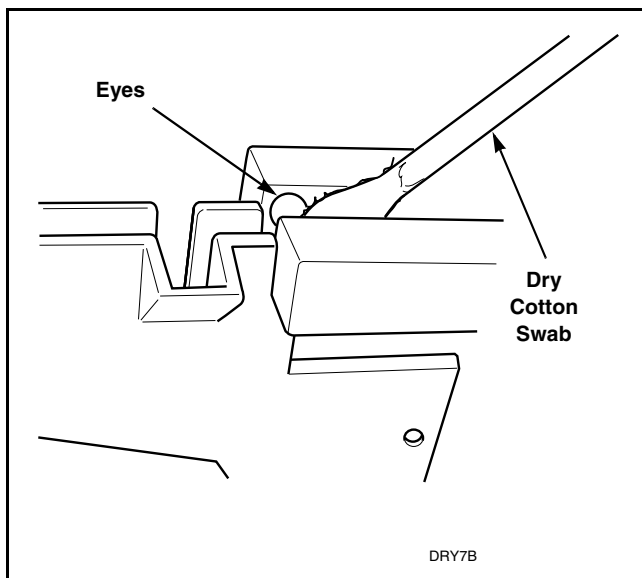

Figure 16
- Check coin drop sensor for dust or dirt on eyes. Wipe eyes with dry cotton swab. Refer to *Figure 16*.